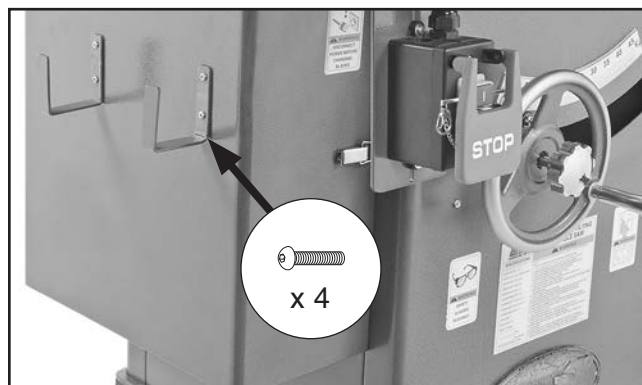

Figure 20. Fence resting brackets installed.
14. Mount the fence resting brackets with (4) M5-.8 x 8 button head cap screws, as shown in **Figure 20**.